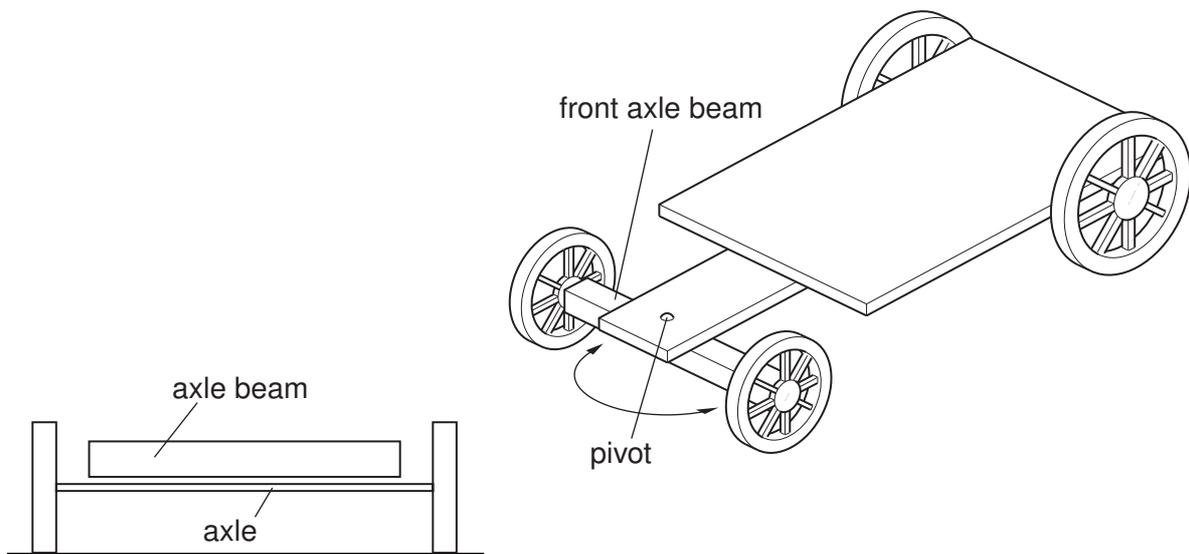

Fig. 8
- 7 Fig. 8 shows an incomplete idea for a child’s wooden go-cart. It is to be steered by pivoting the front axle beam as shown. The wheels have a 12 mm hole in their centre.